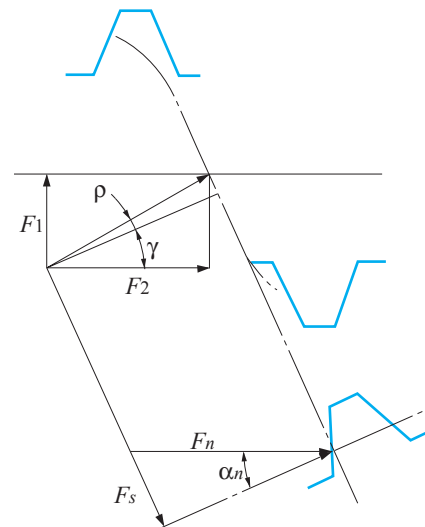

Fig. 7 Load applied to Worm gear pair.
- ⑥ When assembling and warm up for Worm gear pair, design such that Tooth contact can be measured and assembly position can be adjusted.
- ⑦ Worm gear pair performs self-locking when lead angle is below 4° . Please separately design the safety device to stop the gear from inverting.
- ⑧ Load applied to Worm gear pair (Refer to Fig. 7)